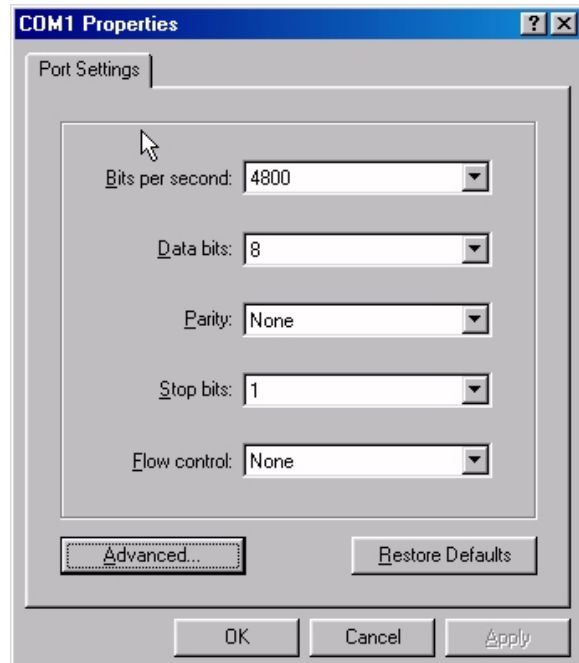

Figure 3-4. *Serial COM port configuration*
3. Configure COM port: 4800 baud (1200, 2400 or 9600, according to Section 2.1), 8 data bits, No parity, 1 stop bit, and No flow control (Figure 3-4).